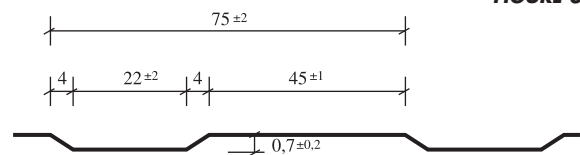

FIGURE 3.1
- The finish can be flat or slightly profiled (Fig. 3.1):